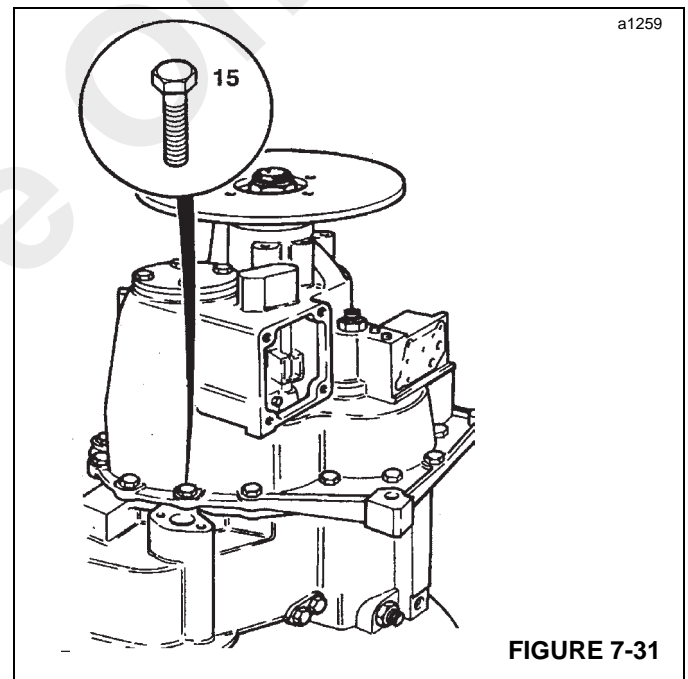

FIGURE 7-31
15. Assemble the two halves of the casing with bolts (15, Figure 7-31). Tighten to a torque of 42 lb-ft. (56 Nm).